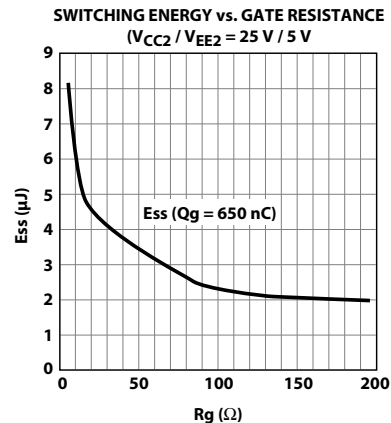

Figure 77. Switching energy plot for calculating average P_{switch} (for HCPL-316J output driving an IGBT rated at 600 V/100 A).
2. Calculate total power dissipation in the part referring to Figure 77. (Average switching *energy supplied to HCPL-316J per cycle* vs. R_G plot);
For $R_G = 10.5$, the value read from Figure 77 is $E_{SWITCH} = 6.05 \mu\text{J}$. Assume a worst-case average $I_{CC1} = 16.5 \text{ mA}$ (which is given by the average of I_{CC1H} and I_{CC1L}). Similarly the average $I_{CC2} = 5.5 \text{ mA}$.
$P_i = 90.8 \text{ mW}$, $P_o = 217.3 \text{ mW}$, $T_A = 100^\circ\text{C}$, and assuming the thermal model shown in Figure 77 below.